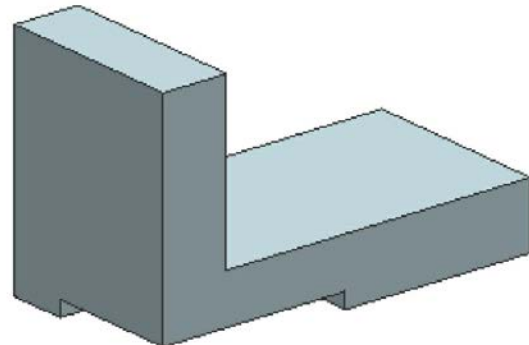

Figure 5-54 Model with the cut feature
5. Press CTRL+B; the **Class Selection** dialog box is displayed. Select the sketch of the second feature from the graphics window and choose the **OK** button from this dialog box; the selected sketch is hidden. The model with the cut feature created is shown in Figure 5-54.